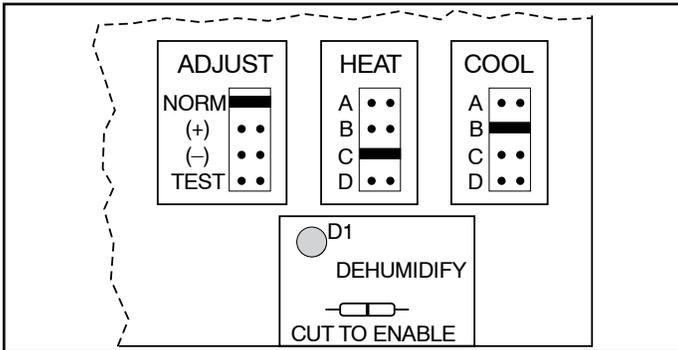

Figure 2. Motor Board Taps and Dehumidify Resistor
Locate the motor control board in the blower control box. Set the HEAT and COOL CFM taps by moving the board jumpers to the A, B, C, or D positions (see Figure 2) based on the information found in Table 2. Variable Speed Motor Application. The ADJUST tap on the control board can be used to raise or lower the table CFMs. The (+) tap will raise the table CFM by 10%, and the (-) tap will lower the table CFM by 12%.
**Special note for units equipped with a humidistat:** If using a humidistat, the dehumidify resistor located on the bottom right of the control board must be removed (see Figure 2).